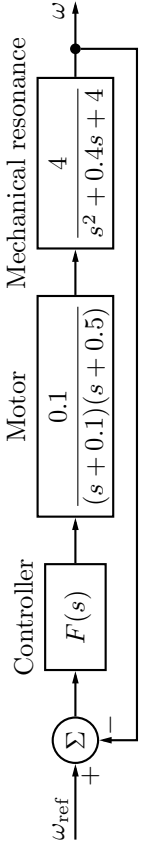

Figure 5.1a
5.1 The block diagram for speed control of a DC-motor is shown in Figure 5.1a. Find a compensator  $F(s)$  such that the following specifications are fulfilled.